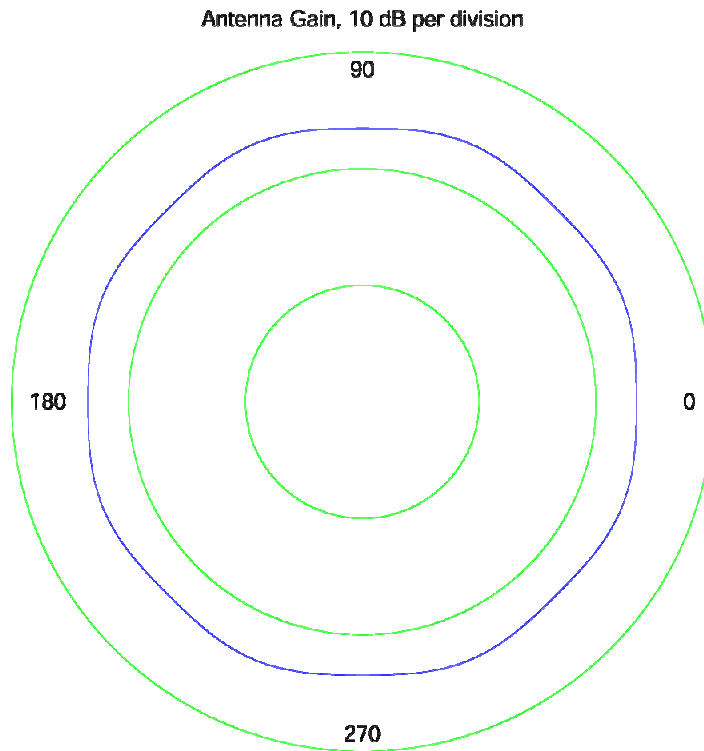

Figure 3 - Omni Antenna Pattern - State "0"
- Omni Pattern: Transmits/receives in a 360-degree circle. This pattern is pre-programmed as State 0 and is illustrated in Figure 3.